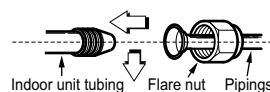

Fig. 16
- Sufficiently tighten the flare nut with fingers, and then tighten it with a spanner and torque wrench as shown in Fig.16 & 17.